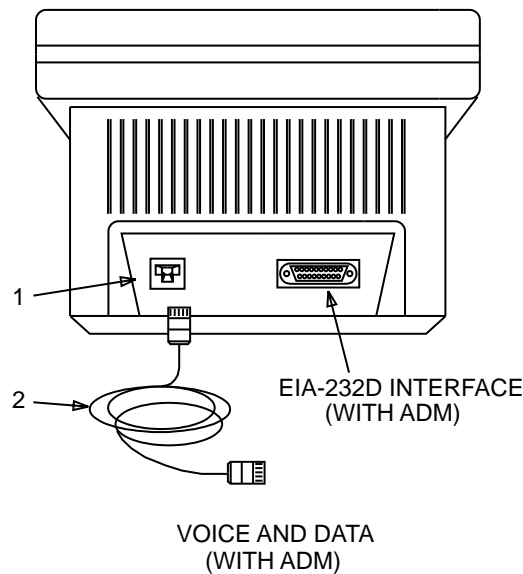

FIGURE 6-5. Back of the 7500-Series Terminals
5. Plug the **D8W line cord** (2 on Figure 6-5) into the **Line jack** (1). Press firmly until you hear a click.
6. If you are connecting a data terminal, plug your equipment's **EIA-232D data cable** into the **EIA-232D jack** (see Figure 6-5 for the location of this jack). Carefully tighten the **connector screws** if the cord is so equipped (a connector with clamp down screws is recommended).